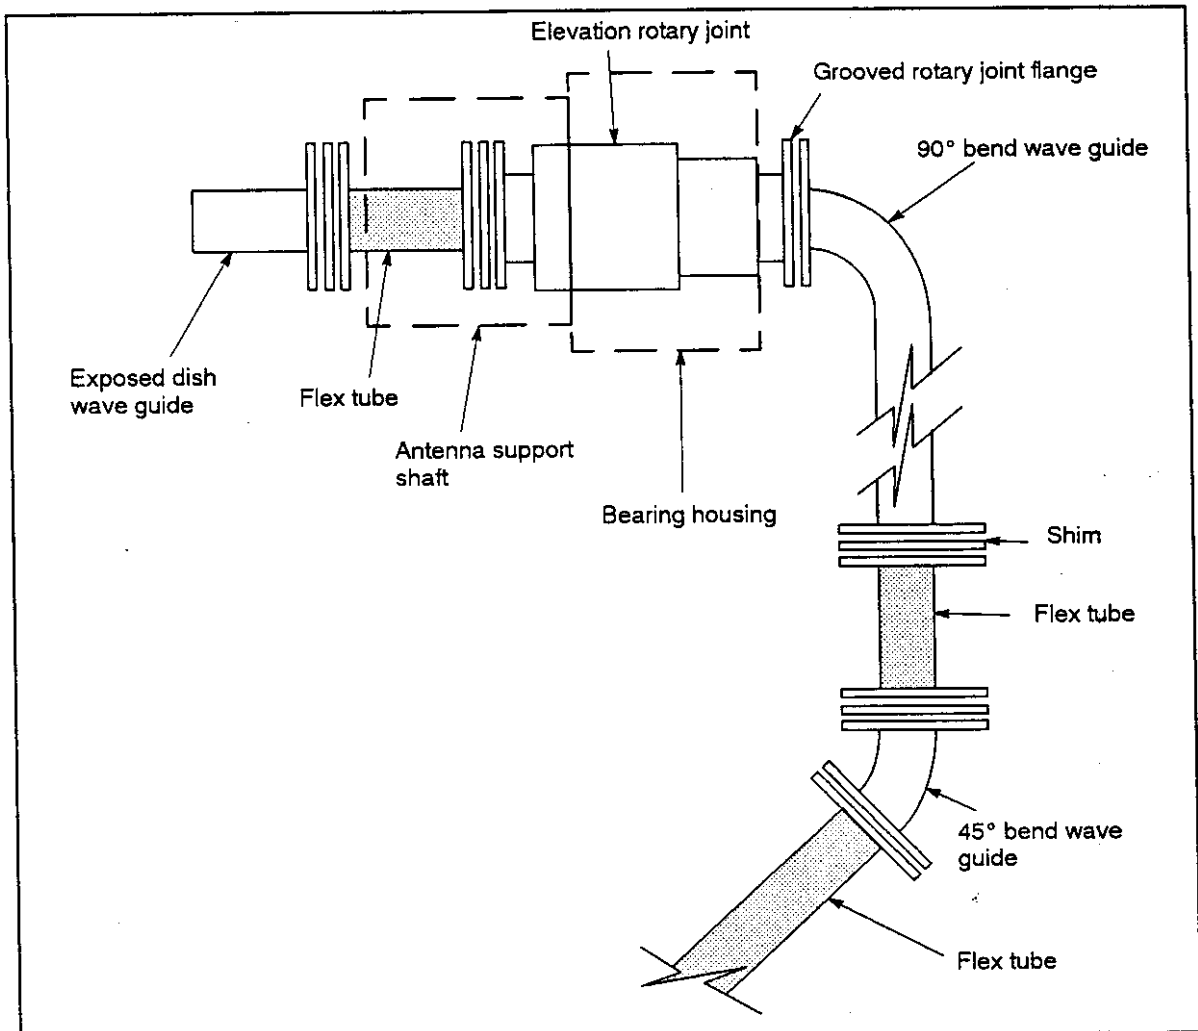

Figure 33. Elevation Wave Guide Rotary Joint.
- d. Disassemble the wave guide flange at the bottom of the 90° bend, saving the rubber gaskets and shim for re-use. Refer to Figure 33 for locations of components.